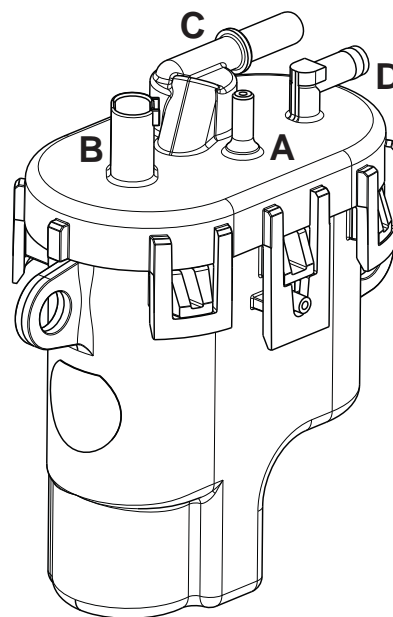

Figure 5-6 Fuel Pump Module.
2. Squeeze clip and remove EVAP tube (to elbow fitting on cylinder 2 heat shield) from top of fuel pump module (A). See Figure 5-6.
4. Pull out grey secondary lock and press to disconnect fuel pump module connector (B).
5. Squeeze two tabs on quick disconnect fitting to release fuel rail from fuel outlet port (C).
6. Squeeze clip at fuel inlet port (D) and remove hose from mechanical diaphragm fuel pump.